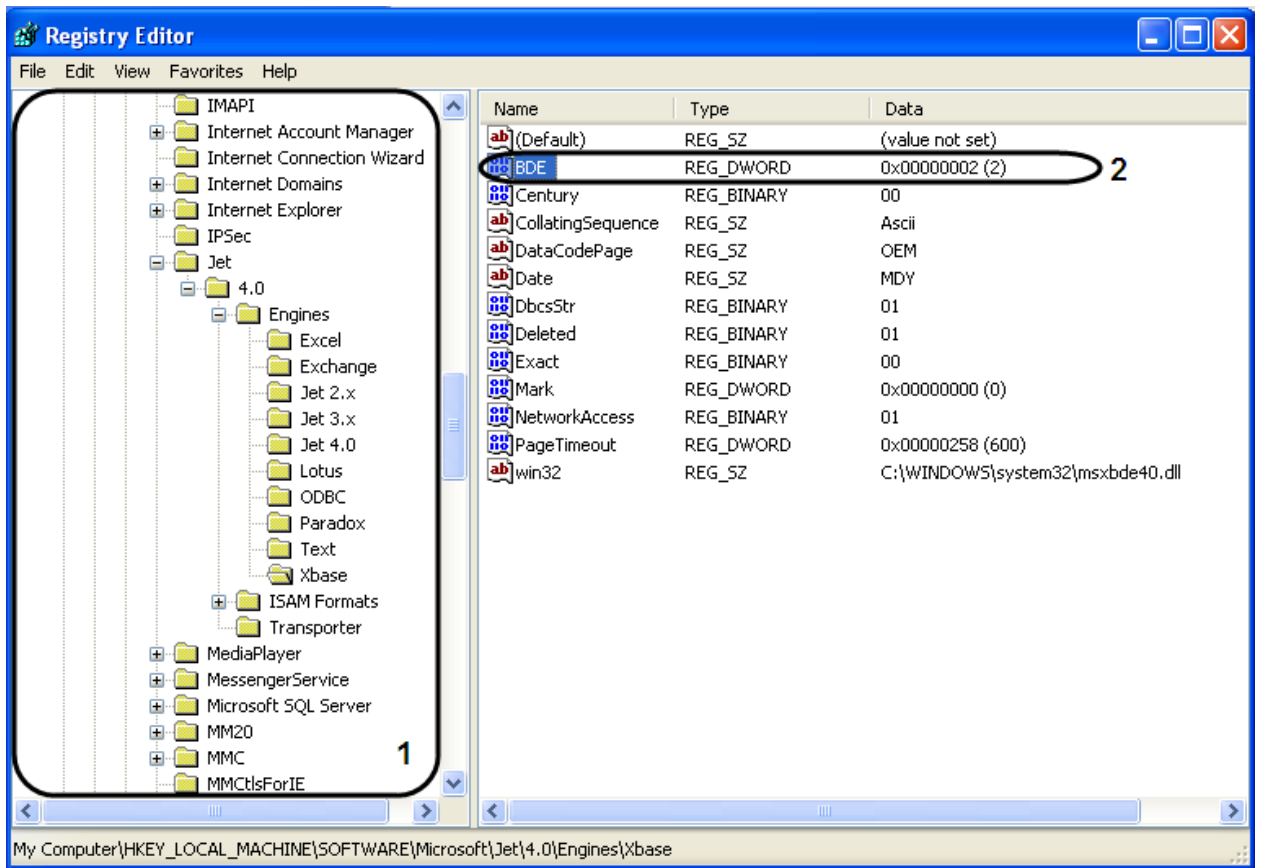

Fig. 9.3-3 Adding the parameter to the register
5. In the register tree select «HKEY\_LOCAL\_MACHINE\Software\Microsoft\Jet\4.0\Engines\Xbase» (Fig. 9.3-3).
9. DWORD «BDE» parameter will be created in result of operations in the registry (Fig. 9.3-3, 2).